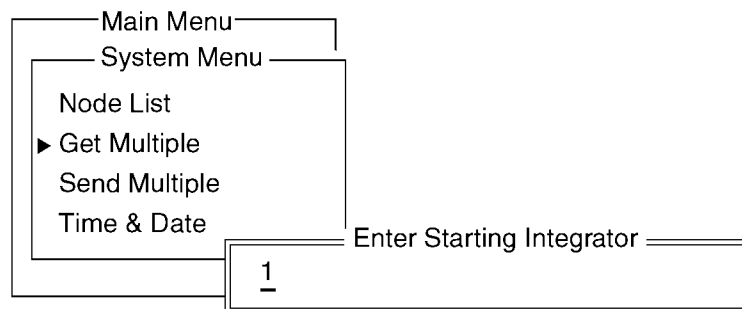

Figure-4.55 Starting Integrator Entry Window.
2. Select **Get Multiple** and press <Enter>. The CI displays the following entry window (Figure-4.55).